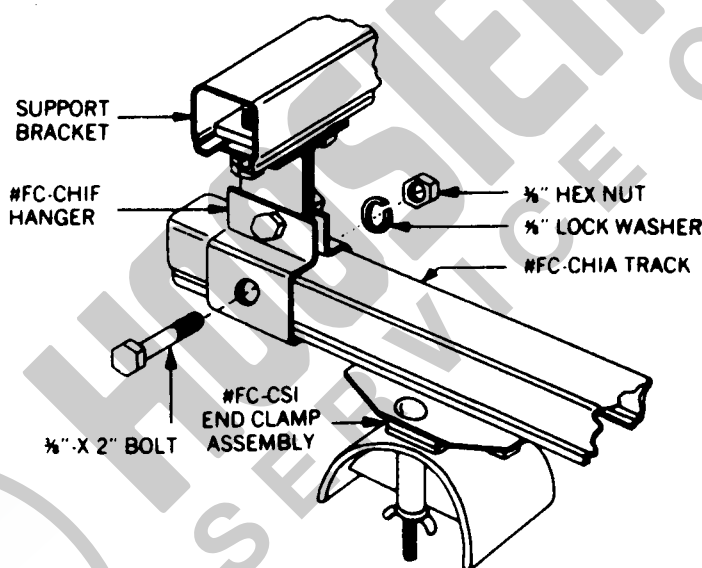

FIGURE 82
6. Install end clamp assembly in cable storage end of track and anchor that end of the track. Refer to Figure 82.